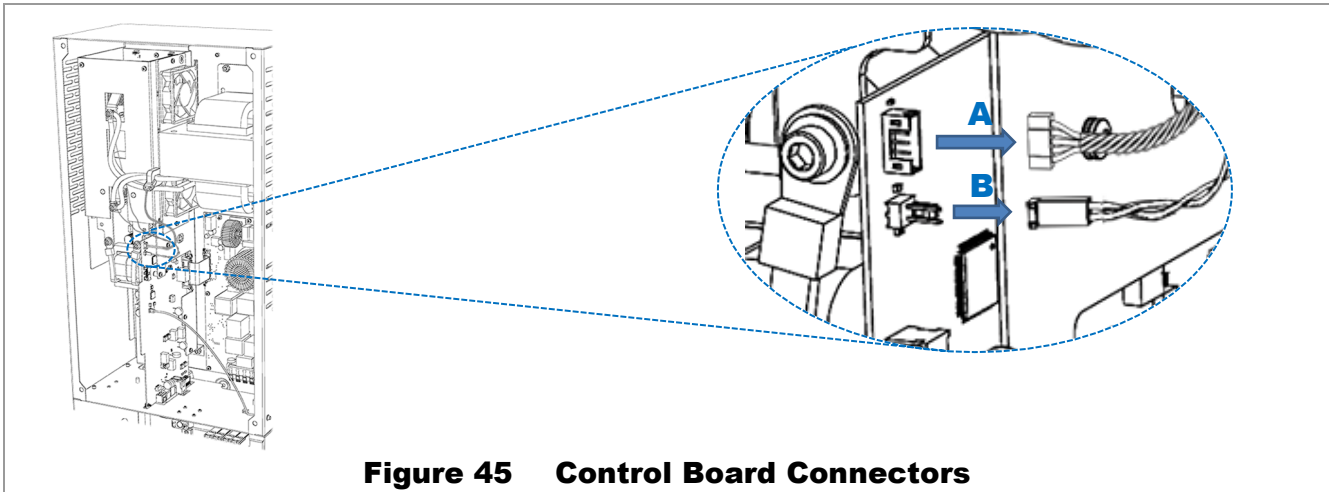

Figure 45 Control Board Connectors
1. Remove the 5-conductor current transducer plug from the control board. See **A** in Figure 45.
2. Remove the 2-pin voltage sense connector. See **B** in Figure 45.
- Replace voltage sense connector **B** and current transducer connector **A**. See Figure 45 if necessary.